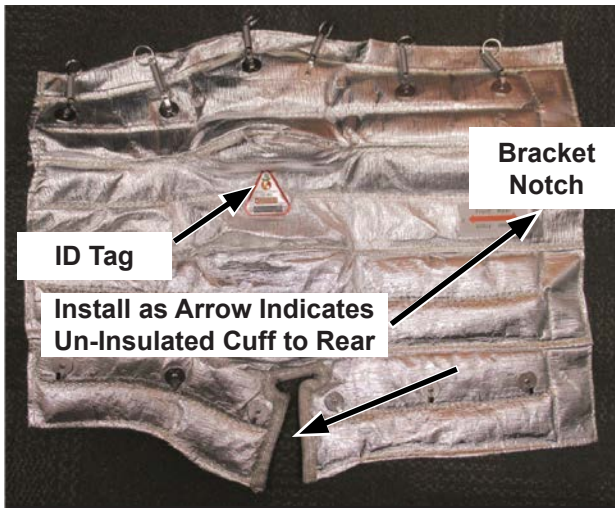

FIGURE 1 - 1131546 WRAP, FORWARD LONG
- Verify that the correct FSO kit is being installed on the unit. Check with the serial number lists by FSO kit on pages 6, 7, and 8. See the table below that compares the kit contents and applications. All the wraps have the Elgin part number on a tag on the wrap. See FIGURES 1, 2, and 3 for photographs of the parts.
4. The 2" un-insulated cuff must be to the rear. FIGURES 1 and 5